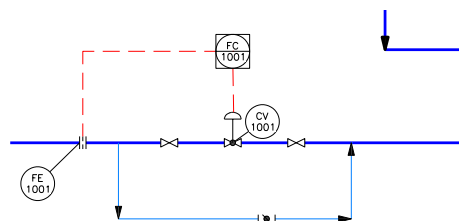

Figure 2-70 Position of another **Primary Accessible DCS** on the electric signal line of the feed line
13. Similarly, place another **Primary Accessible DCS** on the electric signal connected to the feed pipe, refer to Figure 2-70.